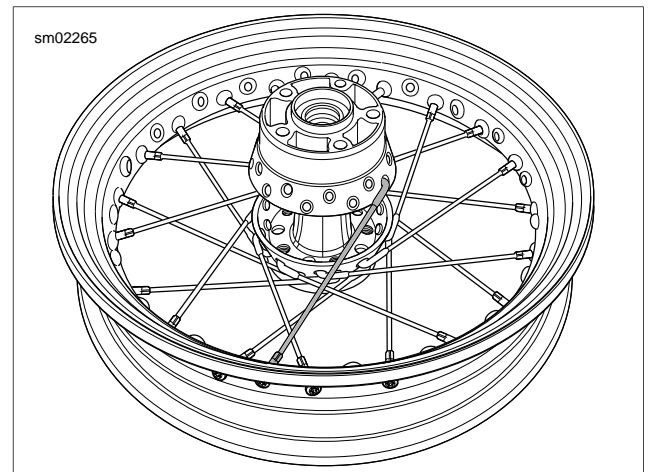

Figure 2-26. Sprocket Side Up: Start First Spoke of Bottom Row
1. See Figure 2-26. Turn hub and rim over so the sprocket side (wide flange) faces up. Place any **lower** row spoke into hub. Angle spoke clockwise and place into rim hole angled to accept it.